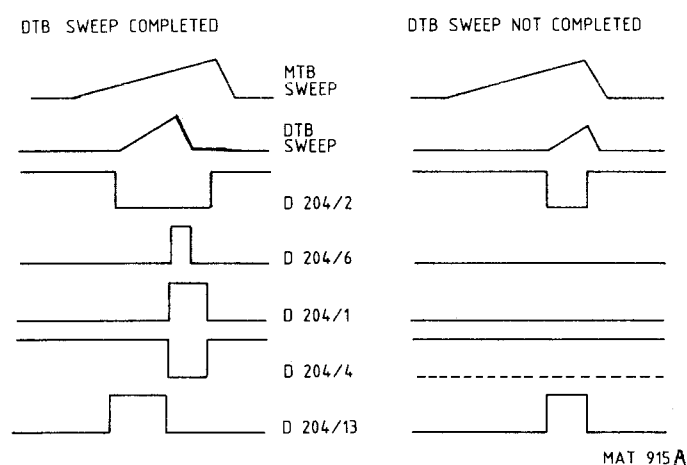

Fig. 2.8 Important voltage-waveforms in the DTB control logic
b) START and STOP of DTB (see timing diagram Fig. 2.8)
The situation described above is valid if the DTB sweep is completed before the MTB sweep (see Fig. 2.8, indicating the voltage waveforms for the DTB SWEEP COMPLETED mode, and also for the DTB SWEEP NOT COMPLETED mode).